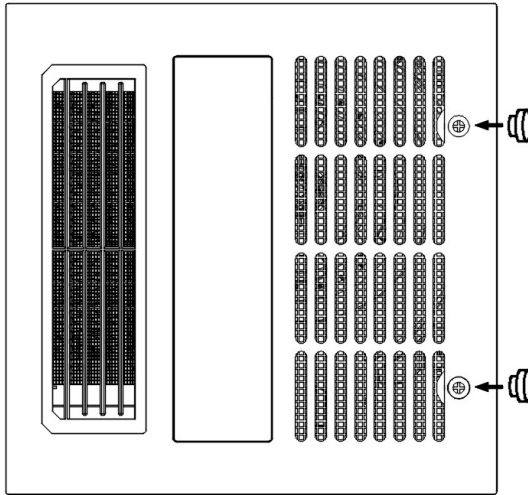

Fig.10.
11. Press the silicon sheet plug into the two screw holes. All installations completed. (See the Fig.10.)